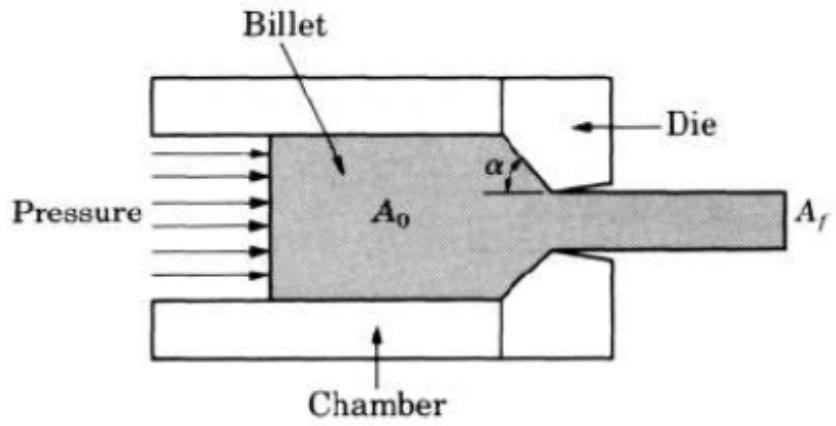
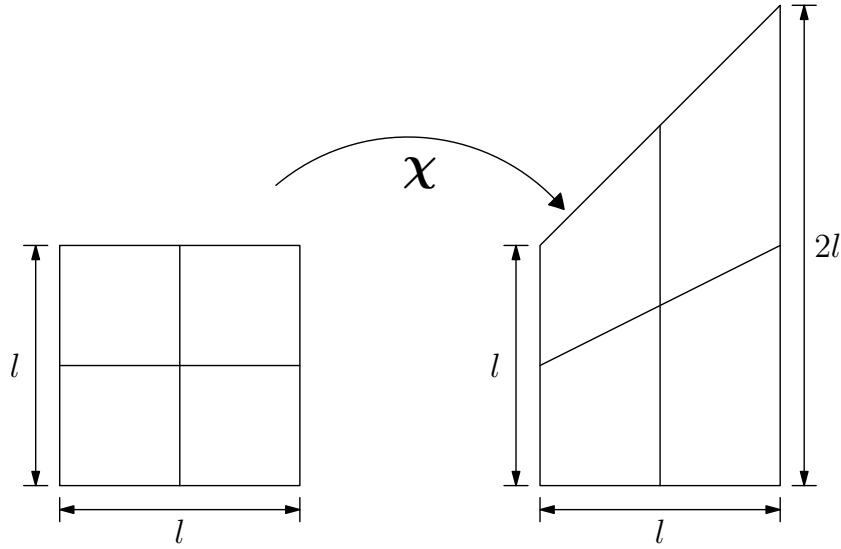

Figure 3: The direct extrusion process
Figure 4: Deformation of body
5. In the direct extrusion process, a round billet is placed in a chamber and forced through a die opening by a hydraulic-driven ram in Fig. 3. The extrusion pressure is affected by the die angle, the reduction in cross-section, extrusion speed, billet temperature, and lubrication. In the vicinity of the corner of the die a rectangular block of material is considered, with its axes oriented along an ortho-normal basis  $\mathbf{e}_1$ ,  $\mathbf{e}_2$  and  $\mathbf{e}_3$ . Its dimension along each of the three axes is  $l$ . The block is deformed as shown in Fig. 4. The thickness remains unchanged. Determine the deformation gradient tensor  $\mathbf{F}$ .